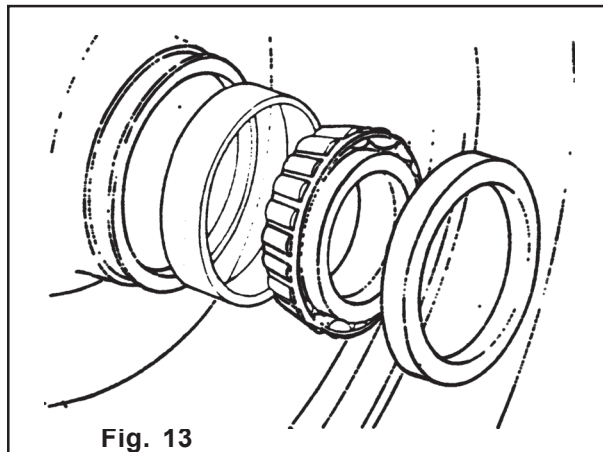

Fig. 13
- \* Fully pack a new inner bearing cone with recommended grease to the correct specification. Fit the inner bearing cone into the hub, and carefully tap a new grease seal into place. (see fig. 13)